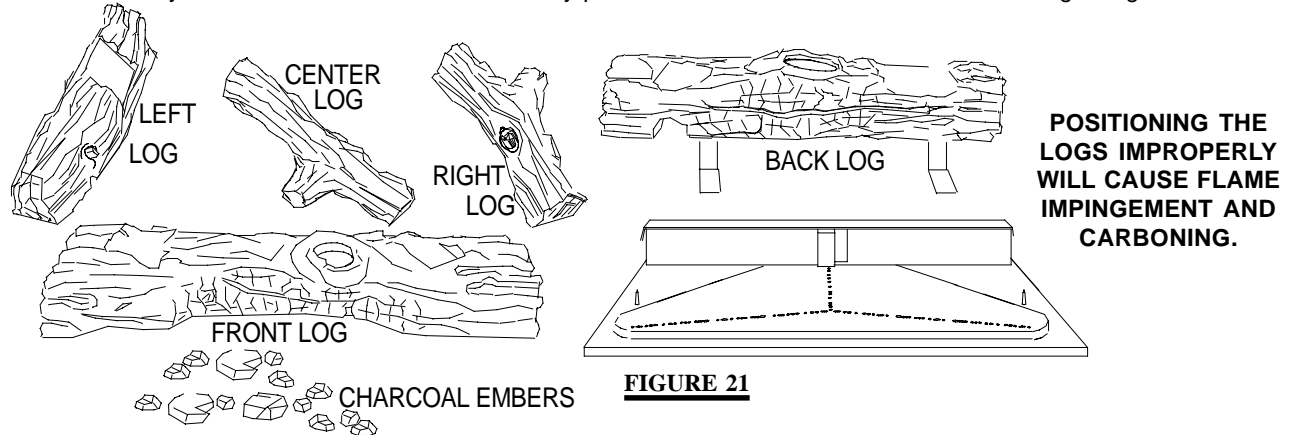

FIGURE 21
2. Place the back log onto the log support brackets located on the rear wall of the combustion chamber. The notch situated at the lower left of the back log should be centered evenly above the pilot assembly. **FIGURE 21.**